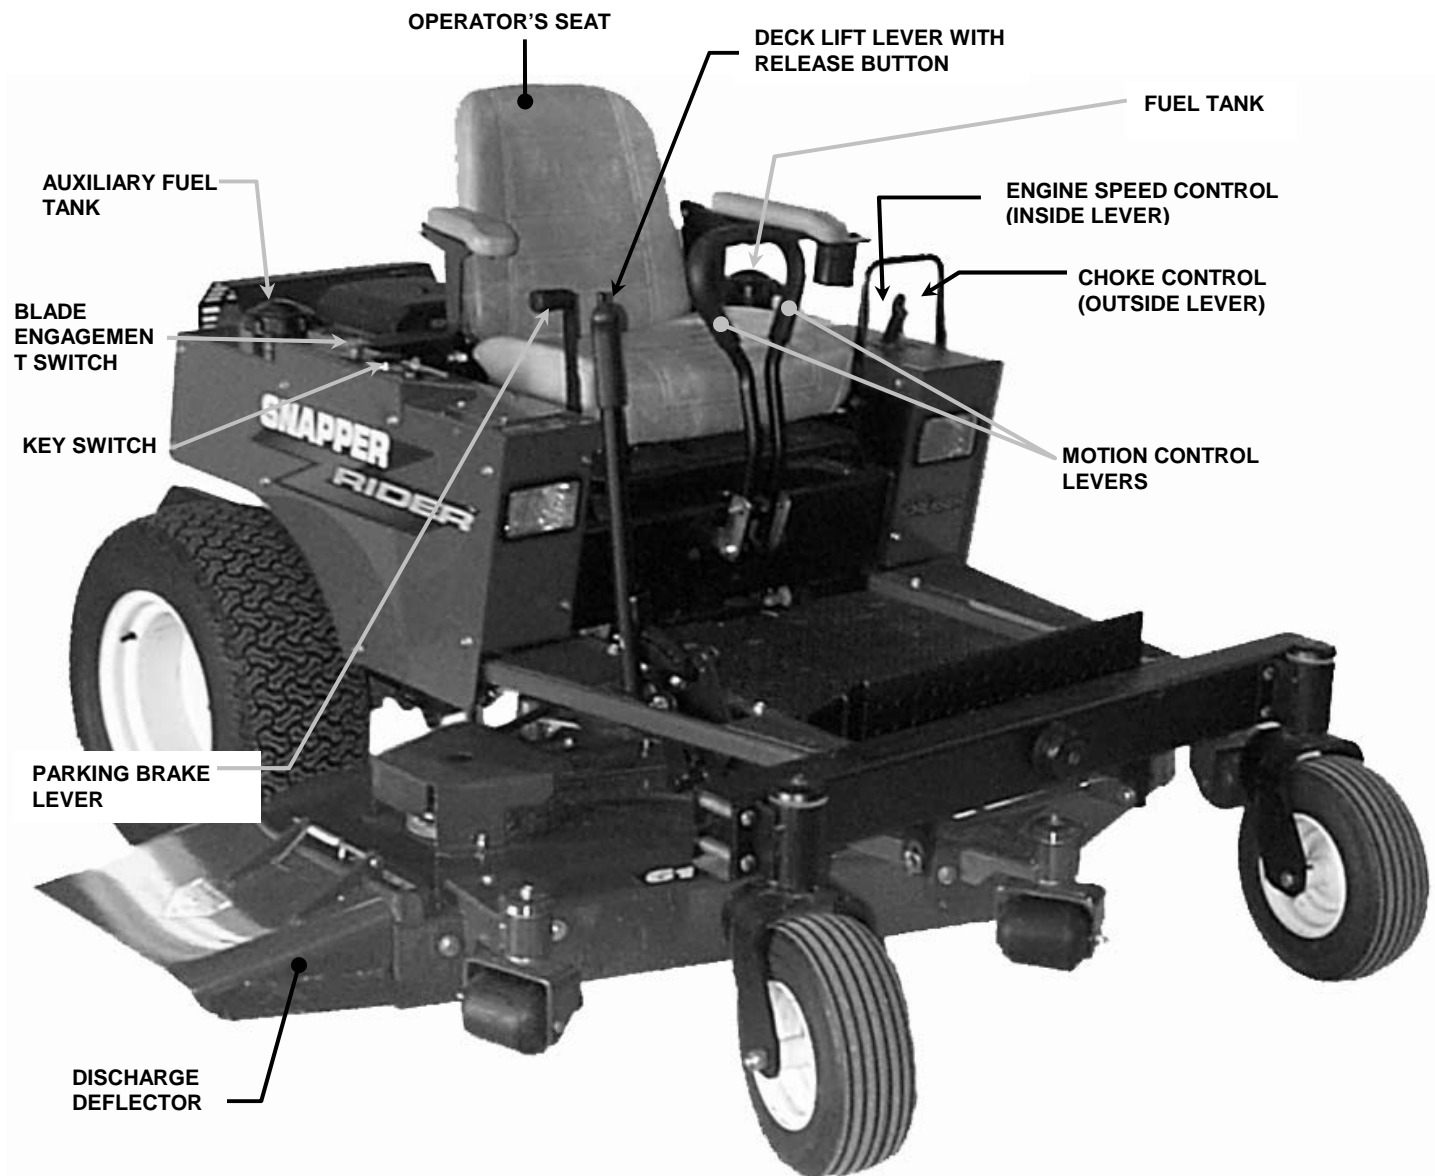

FIGURE 1.1
The nomenclature information above, Figure 1.1, shows the essential parts of the SNAPPER MID MOUNT Z-RIDER. It is recommended that all operator's of this equipment become thoroughly familiar with the controls, components, and operation of this machine before operating. Specific details involving the engine are found in the separate engine owner's manual. Study these manuals before operating and keep both handy for future reference. For the nearest SNAPPER dealer in your area, check the yellow pages under the heading LAWN MOWERS. For engine parts and service, look for the engine manufacturer's dealers under the heading, ENGINES - gasoline.
2.1.8. Place mower in desired cutting height setting. Grasp deck lift lever and depress release button located at tip of lever. Move lever to desired setting, 1 thru 7, and release latch. See Figure 1.1.